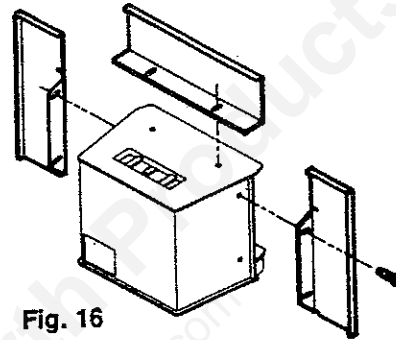

Fig. 16
7. Mount the trim panels using a 3/8" or adjustable wrench and the (6) 1/4-20 self threading screws provided. (Fig. 16).